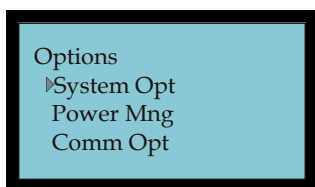

Figure 2-88 Options Menu
2. Press **OK** to display the Options menu and select System Opt (see **Figure 2-88**).